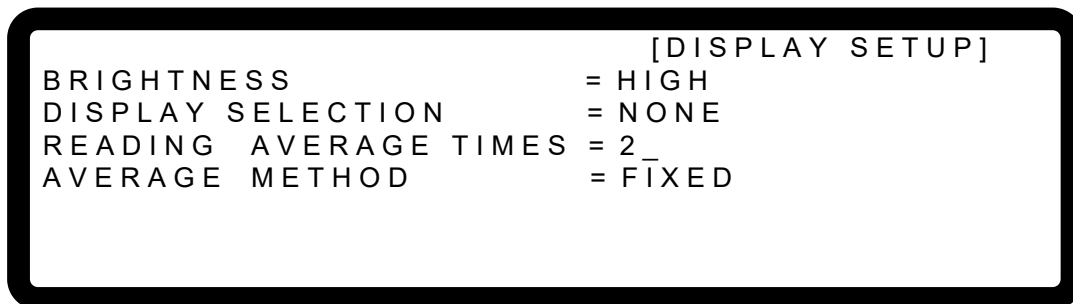

Figure 3-60
1. Use “”, “”, “”, “” keys to move the cursor to the column to be set as Figure 3-60 shows.